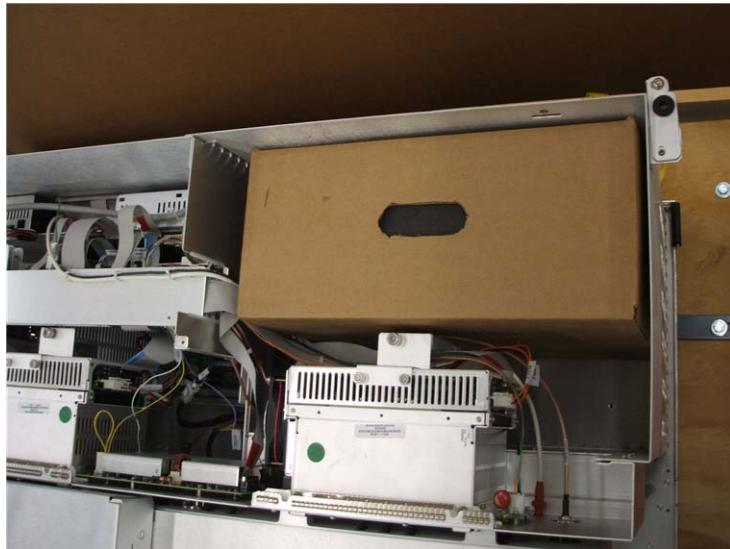

Figure 14 Packaging for ESI with Agilent Jet Stream Technology
- 2 Remove the electrospray interface with Agilent Jet Stream Technology from the packaging inside the instrument chassis next to the e-Module. See Figure 14.